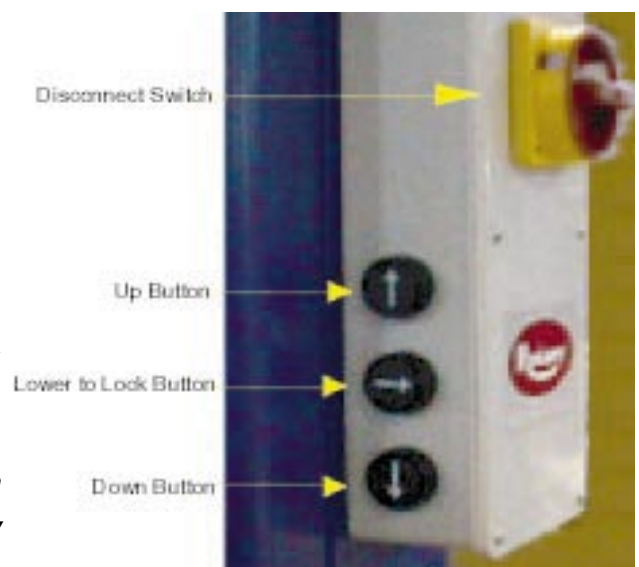

Fig. 25
- Push UP BUTTON, Fig. 25.
- Push LOWER TO LOCK BUTTON, Fig. 25 to lower lift onto safety latches after desired height is reached. (Lift is to be raised high enough for locking latches to engage - 500 mm.)
- Push UP BUTTON, Fig. 25 to raise lift off locking latches.
- Push DOWN BUTTON, Fig. 25 to lower.